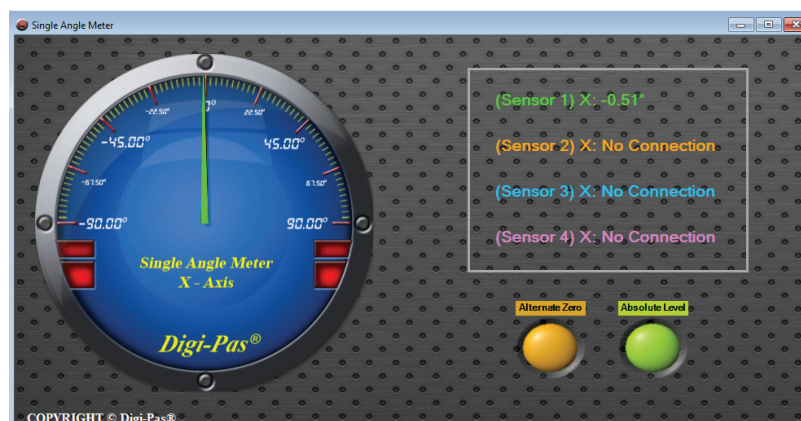

Figure 23. Interface of the PC SYNC software with Single Angle Meter feature
- Screen as illustrated in Figure 23 appears. The feature icons are enabled and ready for selection (e.g. Single Angle Meter, Dual Angle Meter...). Following is an example when Single Angle Meter feature icon is clicked.